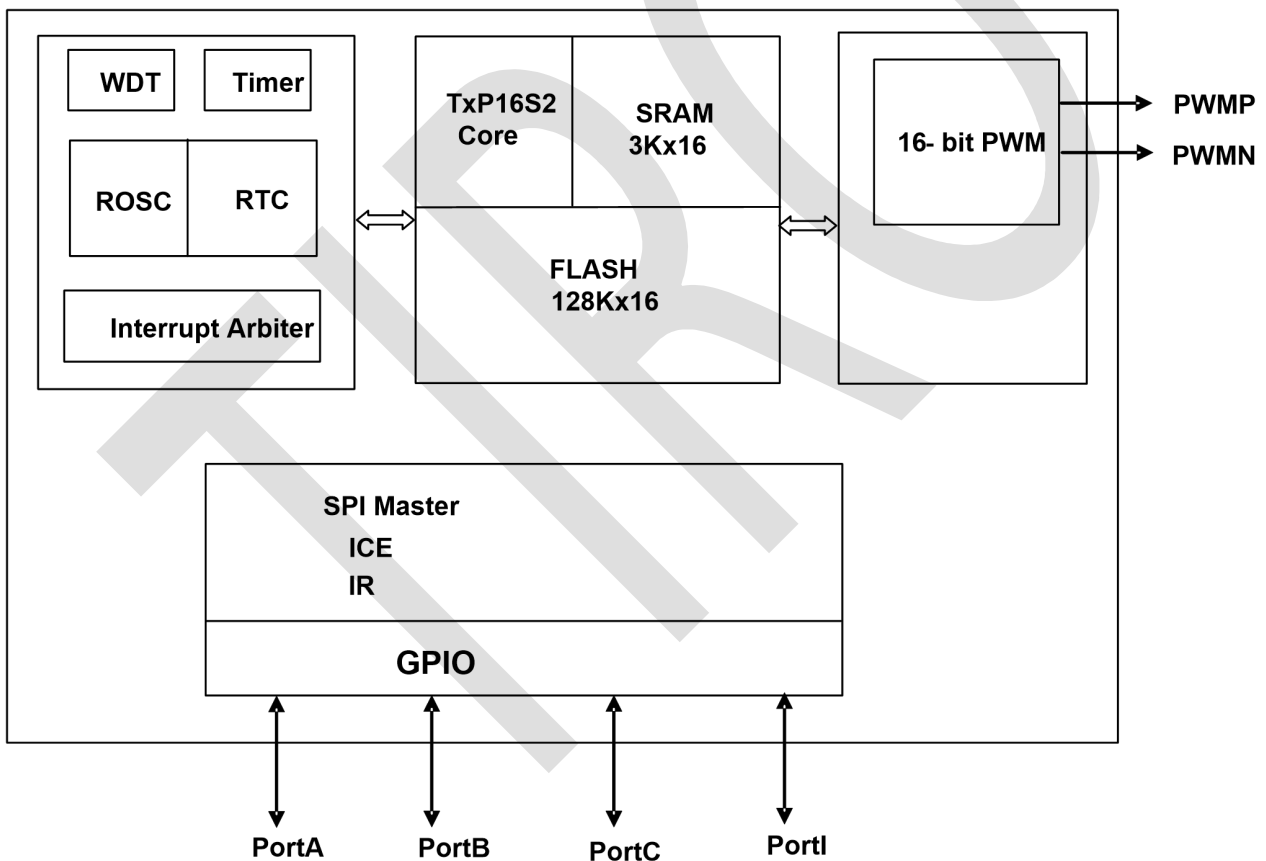

Figure 4.1
As shown in the block diagram in Figure 4.1, the TxR69S6 is a 16-bit data width processing capability and all instructions are operated in one cycle except parameter data ROM(PM) access. The TxR69S6 not only provides general arithmetic such as addition, subtraction, shifter, normalize, and other logical operations, but it also involves MAC and circular buffer operations for complexity digital signal processing.